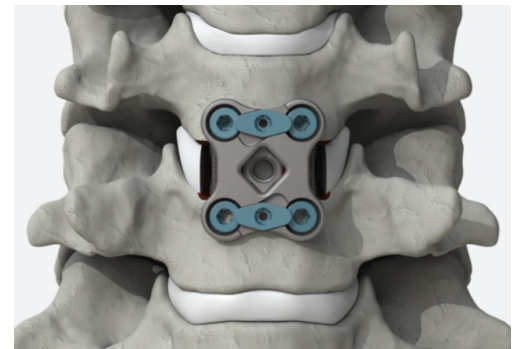

Figure 15
- ▲ Visually inspect CSTS Plate for correct position and confirm with fluoroscopy. Ensure the plate is aligned via the midline of the vertebral body (Fig. 15).